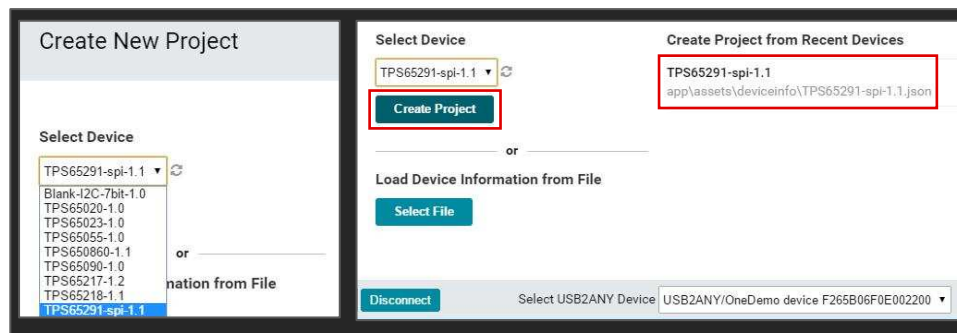

Figure 18. Creating New IPG-UI Project for the TPS65291
- Click the drop-down menu in the *Create New Project* section and select *TPS65291-spi-1.x* as shown in Figure 18.